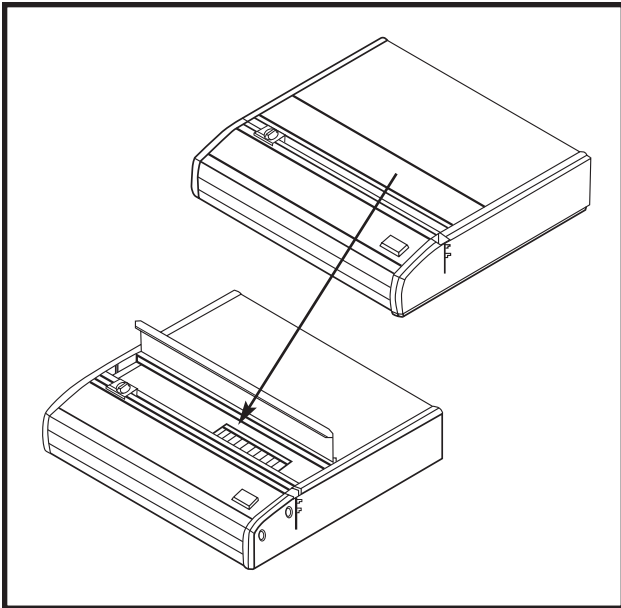

Figure 2
- Determine the number of holes required for your document. Deselect the pins that you do not want to punch by lifting the Selector Pin Lid (Figure 2) and pulling them up.